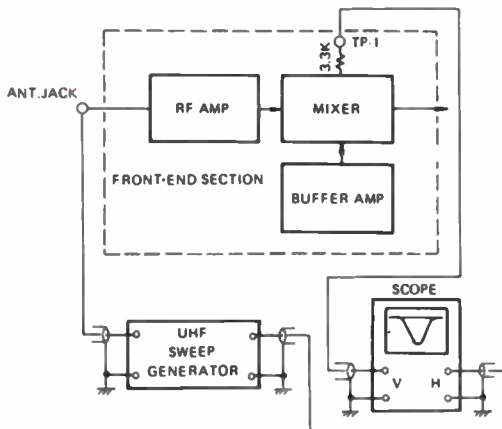

Figure 4. RF TEST SETUP
Step 1: Connect the instruments as shown in Figure 4.